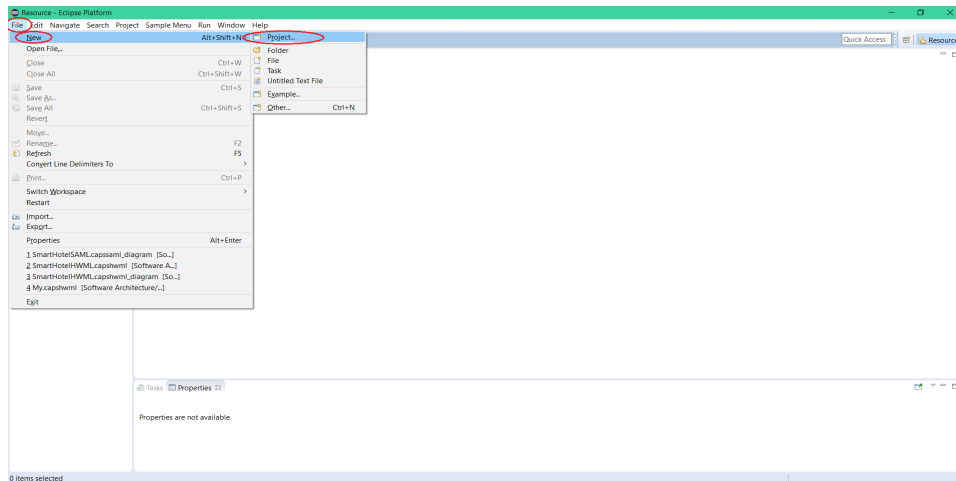
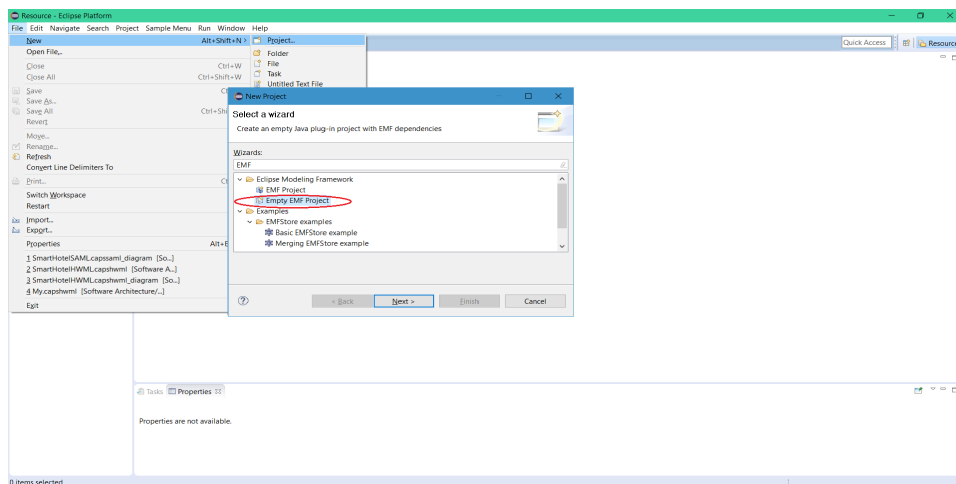
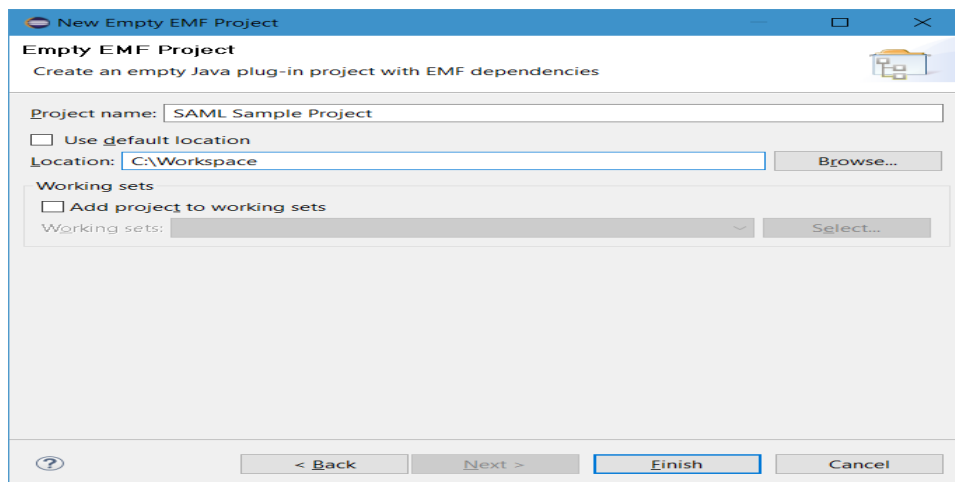

Figure 2.1: Where you can select the Project option
Figure 2.2: The type of project you have to select
Figure 2.3: Name and location
- Let's create the **SAML** sample project: go on **File, New, Project** (figure 2.1). Find **EMF** and select **Empty EMF Project** (figure 2.2). Then, choose a name and a location for your project (figure 2.3). By checking the **default location** checkbox, the project will be created inside the location of your workspace;